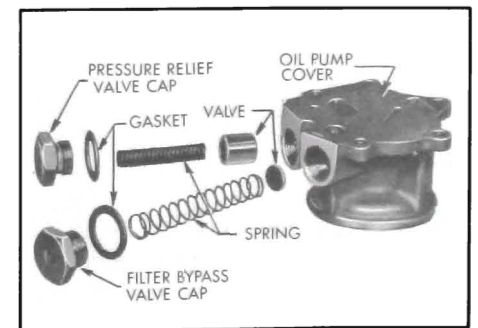

Figure 2-67—Oil Pump Cover Exploded View
2. (V-8) Remove the oil pressure relief valve cap, spring and valve. See Figure 2-67. Remove the oil filter by-pass valve cap, spring, and valve.
1. Lubricate and install pressure relief valve and spring in bore of oil pump cover. See Figures 2-67 and 2-68. Install cap and gasket. Torque cap to 30-35 pounds with a reliable torque wrench. Do not over-tighten.